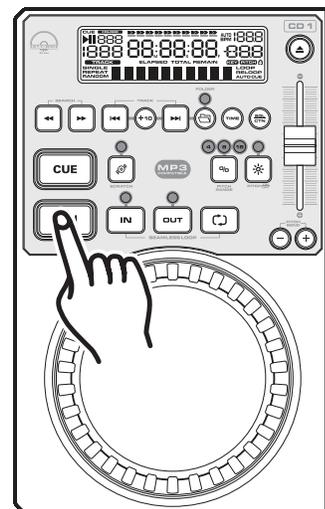
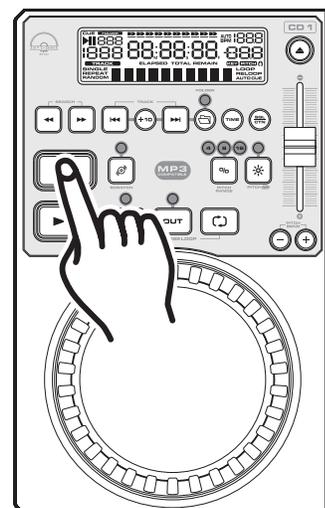
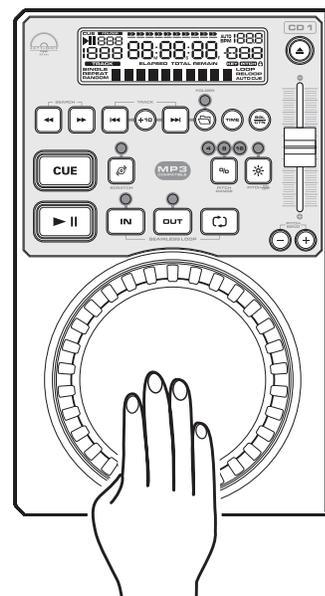

Figure 11
Figure 12
Figure 13
3. STARTING PLAYBACK - *Figure 11*
6. STOPPING PLAYBACK - *Figures 11 & 12*
- 1) Press the *PLAY/PAUSE BUTTON (11)* during playback. This will pause playback at the exact same point the *PLAY/PAUSE BUTTON (11)* was pressed.
- 2) Press the *CUE BUTTON (13)* during playback. This will pause playback and return the track to the last set cue point.
This feature allows you to scroll through a track frame by frame, allowing you to find and set a starting cue or loop point. To use the scroll function you must first be in Pause Mode (see section 4) or Cue Mode (see section 8). Once you are in Pause or Cue mode, turn the *JOG WHEEL (9)* to scroll through the track (*Figure 13*). Turning the wheel in a clockwise direction will advance the frame search and turning the wheel in a counter-clockwise direction rewinds the frame search. When you use the *JOG WHEEL (9)* the monitor (headphone level) function allows you to hear what you are scrolling through. Once you reach your desired starting point you can set a cue (starting) point by pressing the *PLAY/PAUSE BUTTON (11)* as in *Figure 11*. Pressing the *CUE BUTTON (13)* as in *Figure 12* will now return you to the point you just set.